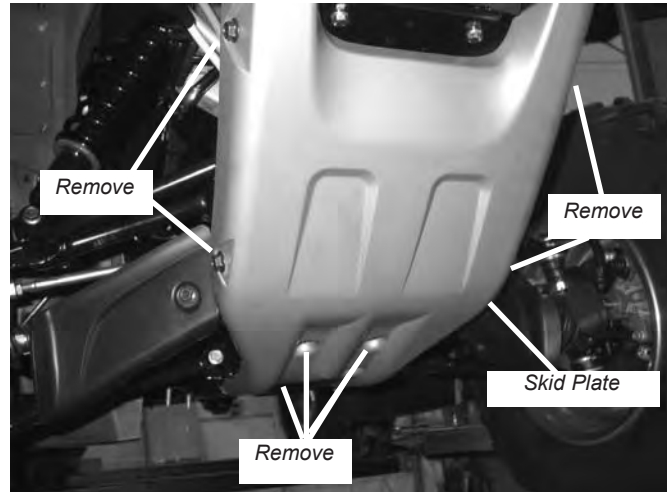

Figure 1 Remove Front Skid Plate
1. Begin by removing the front skid plate located on the front of the ATV. Remove the four side 8mm bolts and four bottom 6mm bolts securing the front skid plate, figure 1. Save the fasteners as they will be used later to reinstall the front skid plate.